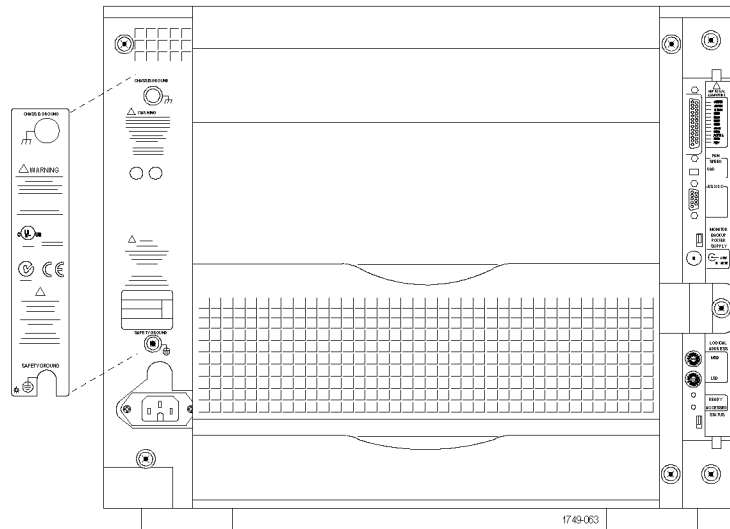

Figure 42: Power label location
1. Locate the new power label and attach it to the rear of the instrument over the old label. (See Figure 42.)